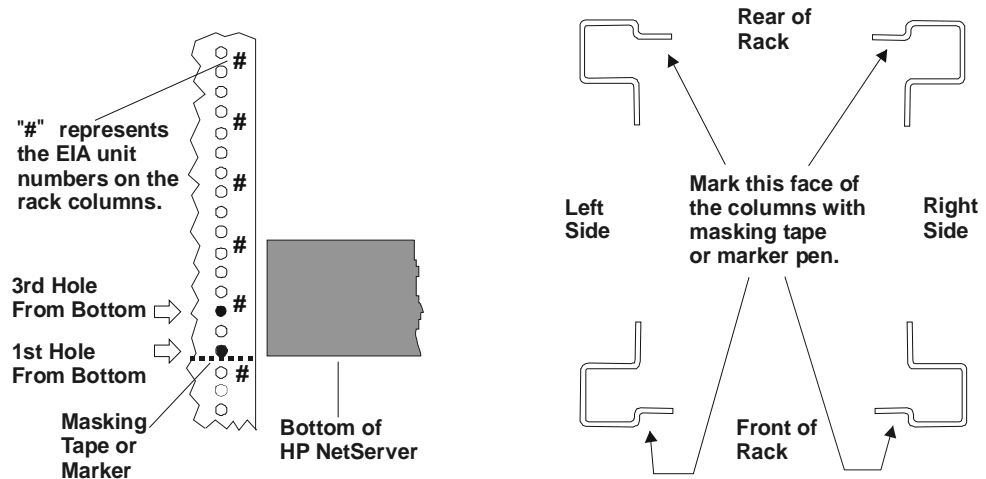

Figure 7-2. Marking Rack Columns
1. Use a marking pen or masking tape to mark the server position on the face of the front columns and the inside of the rear columns. The example in Figure 7-2 shows a HP System /E or /U rack.